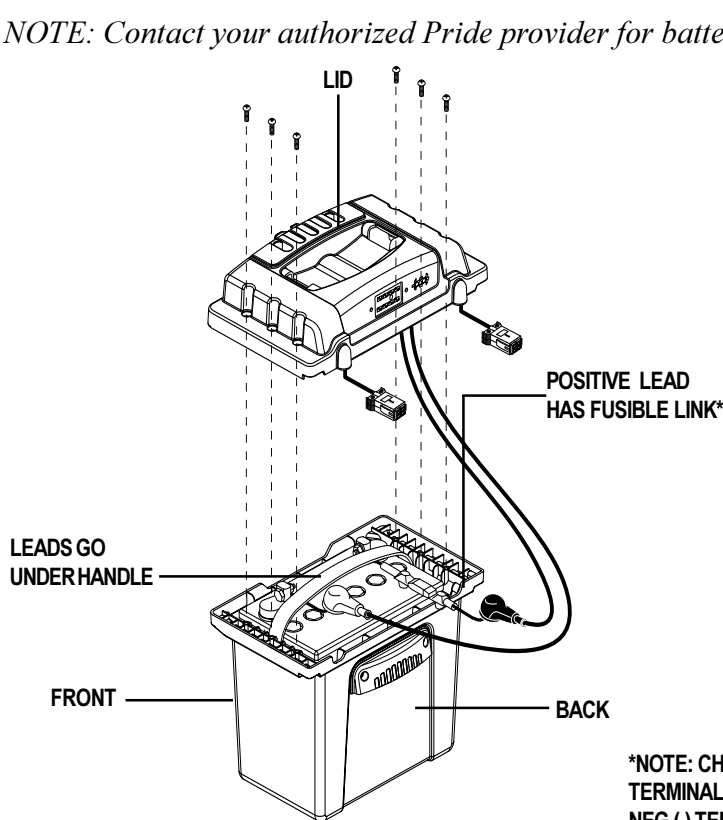

Figure 29. Jazy 1133 Rear Battery Box
2. Remove the fasteners that attach the battery box lid to the battery box. See figures 29 and 30.
6. Install the battery harness onto the new battery. Connect the black lead to the negative (-) battery terminal and the red lead is connected to the positive (+) battery terminal. See figures 29 and 30.